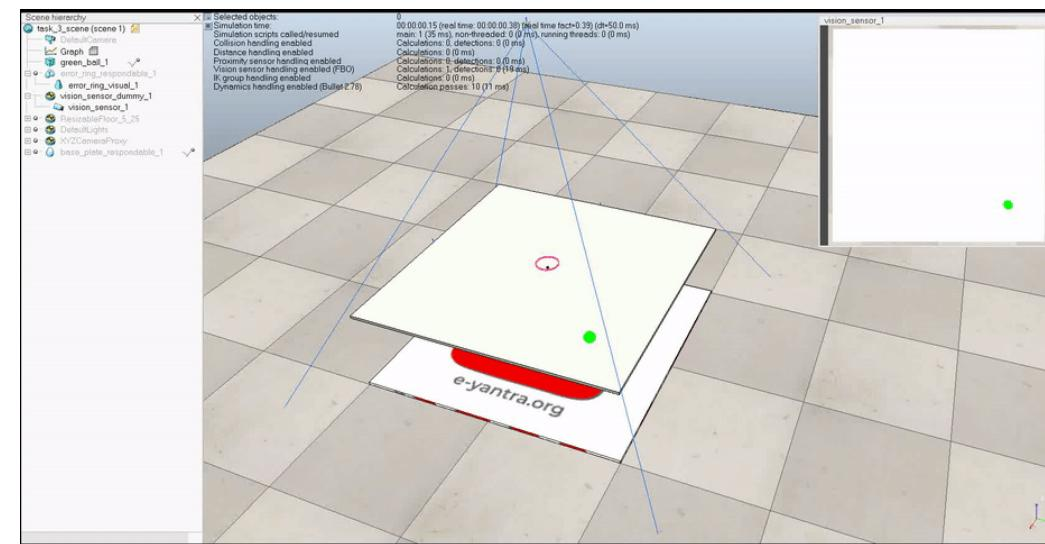

Figure 9: Execution of **test_task_3**.
- During **execution** of the file, you will find the output as shown in Figure 9.